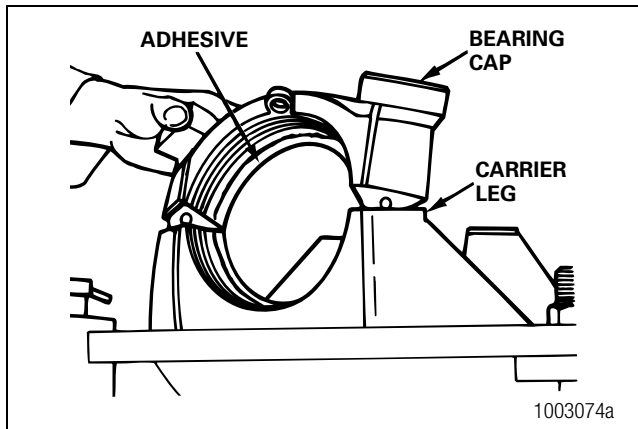

Figure 5.25
3. Apply Meritor specification 2297-P-3994, Loctite® 680 adhesive, or equivalent into the bearing bores of the carrier legs and bearing caps. To obtain this adhesive, refer to the Service Notes page on the front inside cover of this manual. Don't allow adhesive to contact adjusting ring threads. Refer to Section 4. Figure 5.25.